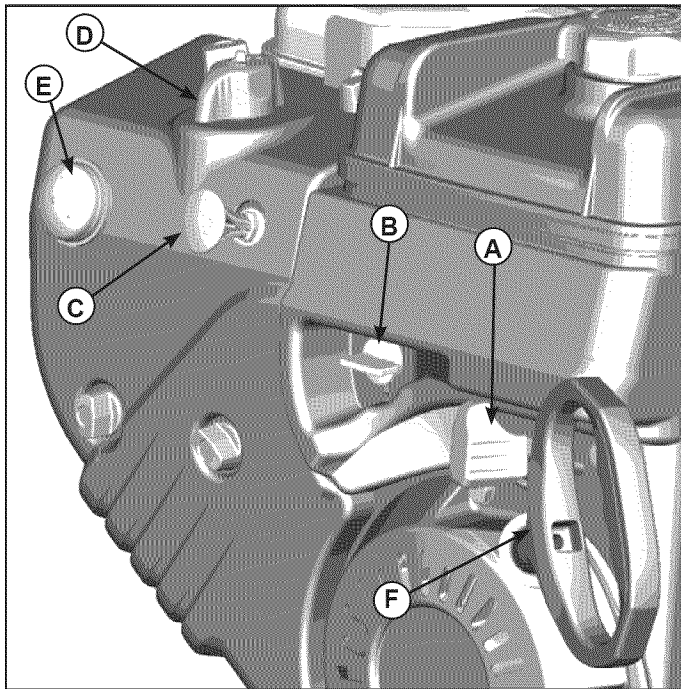

Figure 19. Engine Start/Stop
Or move the throttle control lever (A, Figure 19), if equipped, to the FAST position. Operate the engine with the throttle control lever in the FAST position.
4. Turn the fuel shut-off valve (B, Figure 19), if equipped, to the ON position.
5. Push in the safety key (C).
6. Turn the choke control knob (D) to the choke position.
Or move the throttle control lever (A, Figure 19), if equipped, to SLOW and then to the STOP position.